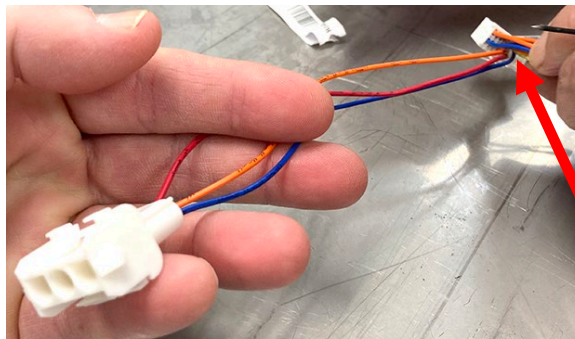
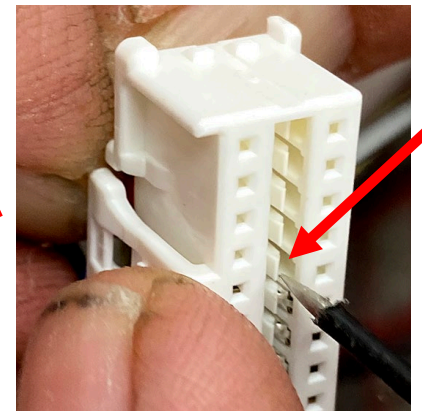

Figure 21
Figure 22
- g. Locate the 8075951 harness. Disconnect the three (3)-pin molex connector and wires from the 20-pin connector (see Figure 21). If already present on the fryer skip to step K. Use a small screwdriver or fine pin to gently lift up the tabs (see Figure 22) and